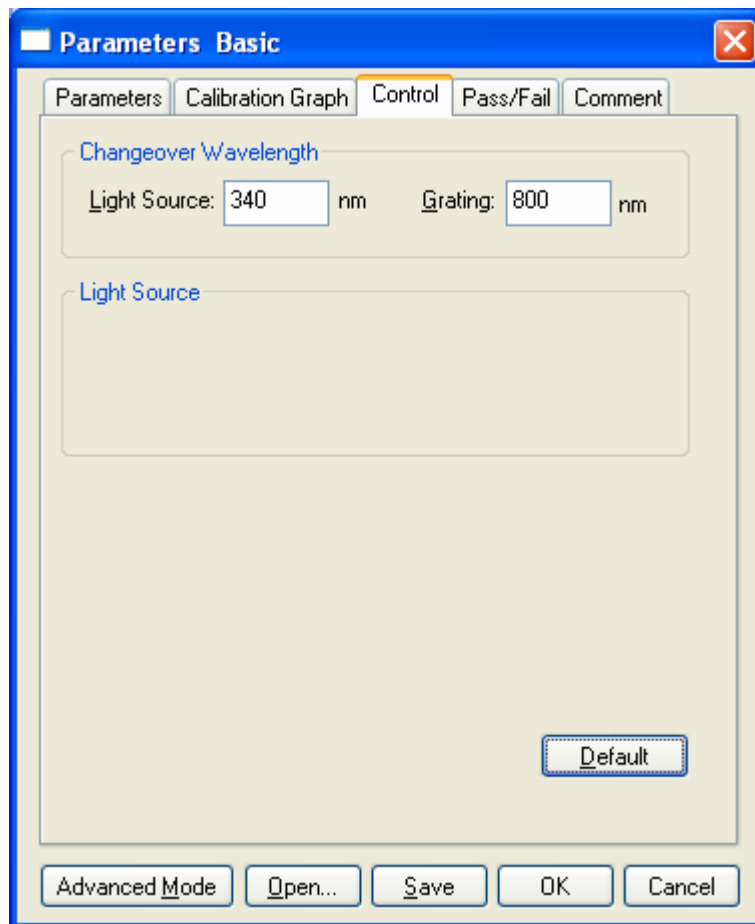

Figure 5.6 [Parameters Basic] Dialog, [Control] tab
(3) Click on the [Control] tab (see Fig. 5.6).